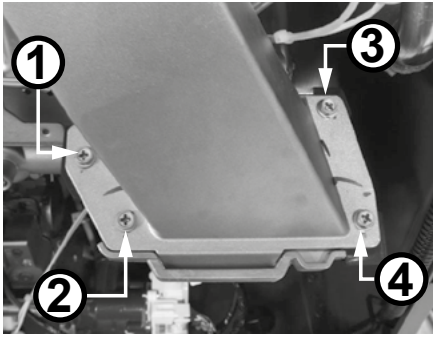

Figure 5 - Remove fan assembly screws
10 Locate the four (4) screws securing the fan assembly to the burner assembly as shown in Figure 5 on the following page. Use a Phillips screwdriver to remove the screws. Place the screws aside in a safe place for reinstallation.